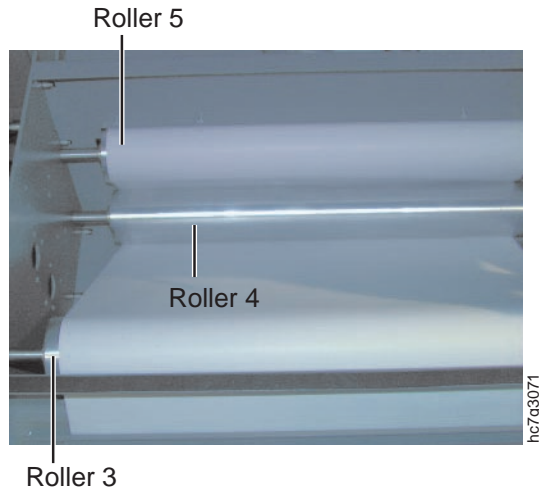

Figure 311. Threading Through Rollers 3, 4, and 5
15. Thread the print medium over roller 3, under roller 4, and around roller 5, as shown in Figure 311 on page 327.